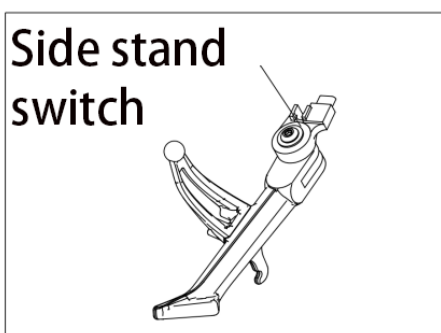

Figure 16
9.4 Side Stand Kill Switch (Figure 16)